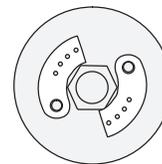
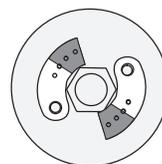

fig. 2 Standard, for quickest engagement.
fig. 4 Maximum cut, for slowest engagement.
- In general, **the better the traction**, the longer the shoes (quicker clutch engagement, quicker acceleration, fig. 2); **the slicker the track**, the shorter the shoes (slower engagement, fig. 4), which prevents tire spinning. To decrease the clutch engagement, try cutting the PTFE shoes one hole shorter. Do not make the shoes too short.